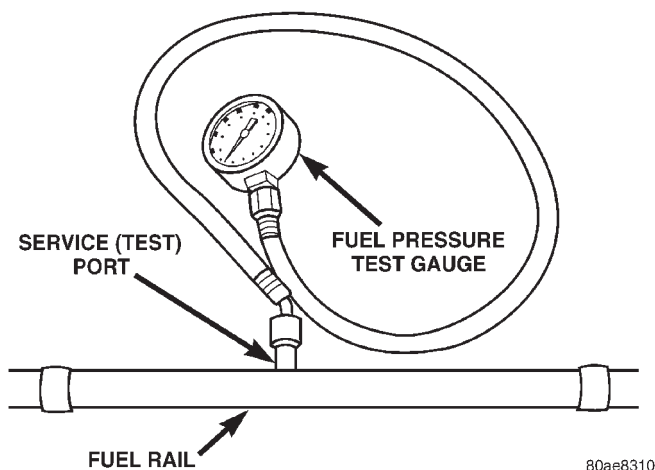

Fig. 6 Fuel Pressure Test Gauge (Typical Gauge Installation at Test Port)
(1) Remove protective cap at fuel rail test port. Connect the 0–414 kPa (0–60 psi) fuel pressure gauge (from gauge set 5069) to test port pressure fitting on fuel rail (Fig. 6).